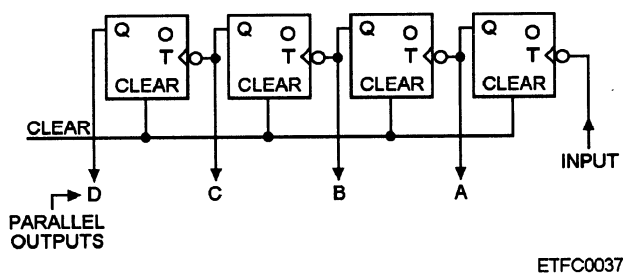

Figure 4-13.—Example of an asynchronous operation with a flip-flop.
• Asynchronous operations —This term describes the operation of logic functions that are not controlled by the occurrence of a specific timing pulse. Refer to figure 4-13.